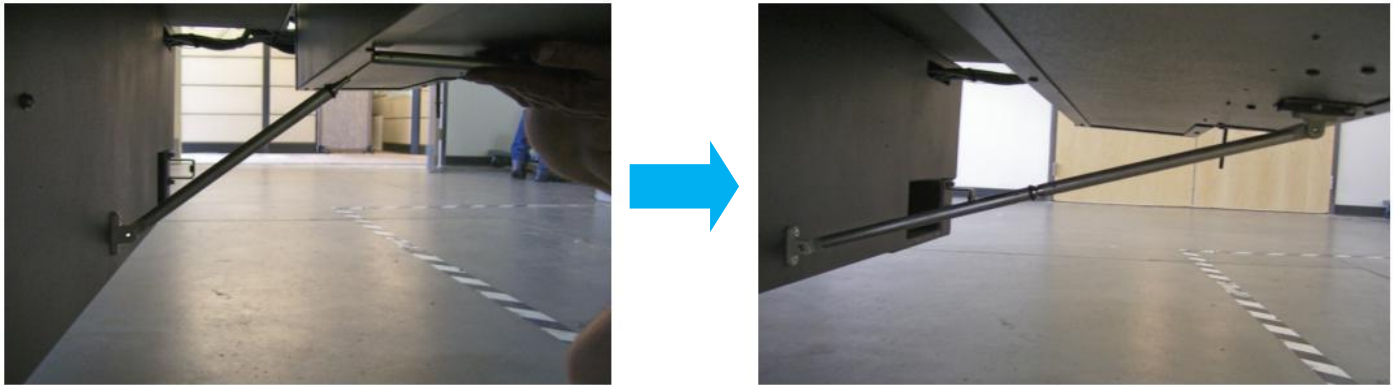

Figure 11 SSCA Support Rod Extend
4. Extend SSCA Support Rod which locate underneath of SSCA as below Figure 11